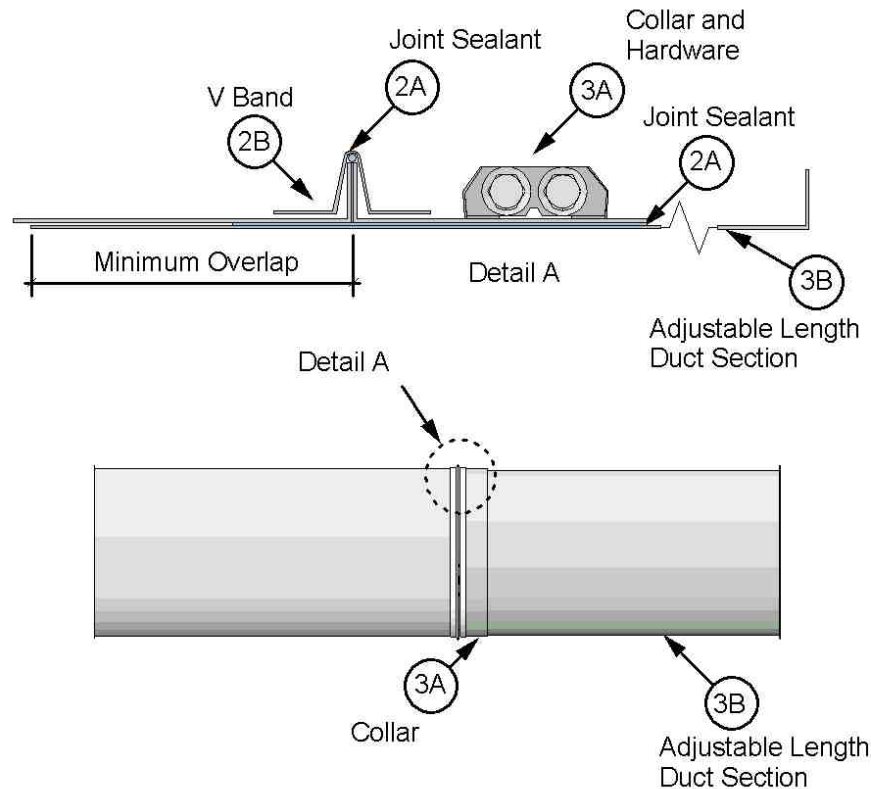

Figure 3. Adjustable Length Joint
3. ADJUSTABLE LENGTH JOINTS: Join the prefabricated grease duct (Item 1) adjustable length section to standard duct section using the following components and methods, and as shown in Figure 3: